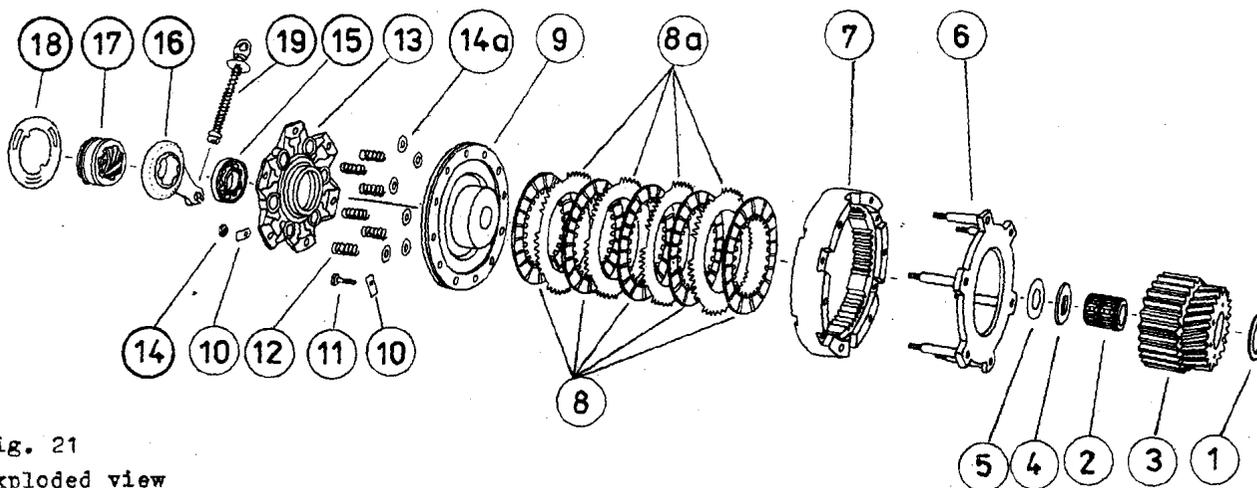

Fig. 21
Screw the clutch puller (1) fully on the thread of the clutch (2). The spindle (3) presses the clutch from the cone of the crankshaft. Pull the clutch from the internal driver. Remove corrugated washer (5) and thrust washer (4), remove drive gear with internal driver (3) and needle bearing (2) and spacer (1) from the crankshaft (see Fig. 21).
For dismantling and assembling the clutch, the internal driver with drive gear (3) must be plugged on the assembly device. By turning the lock nut (4) clockwise, the clutch flange is relaxed and the nuts (WoF 10) (5) can be loosened and removed with lock plates. After removing the lock nut (4), the clutch can be dismantled into its individual parts (Fig. 21). Checking for wear is dealt with in Section 3.4.1.